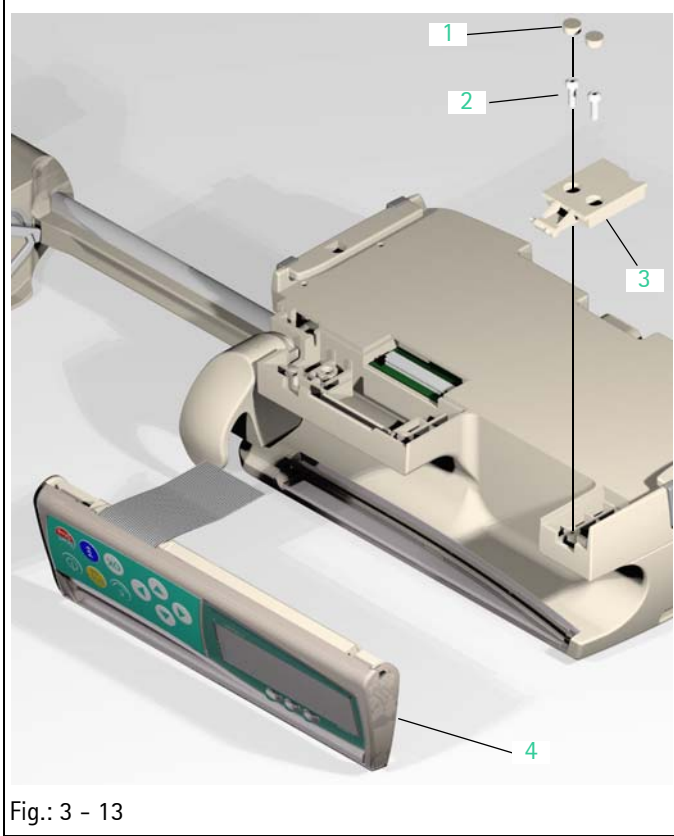

Fig.: 3 - 13
5. Disconnect the operating unit connection cable (Fig.: 3 - 12 / Item 1) from the connector.
Legend of fig. 3 - 13: